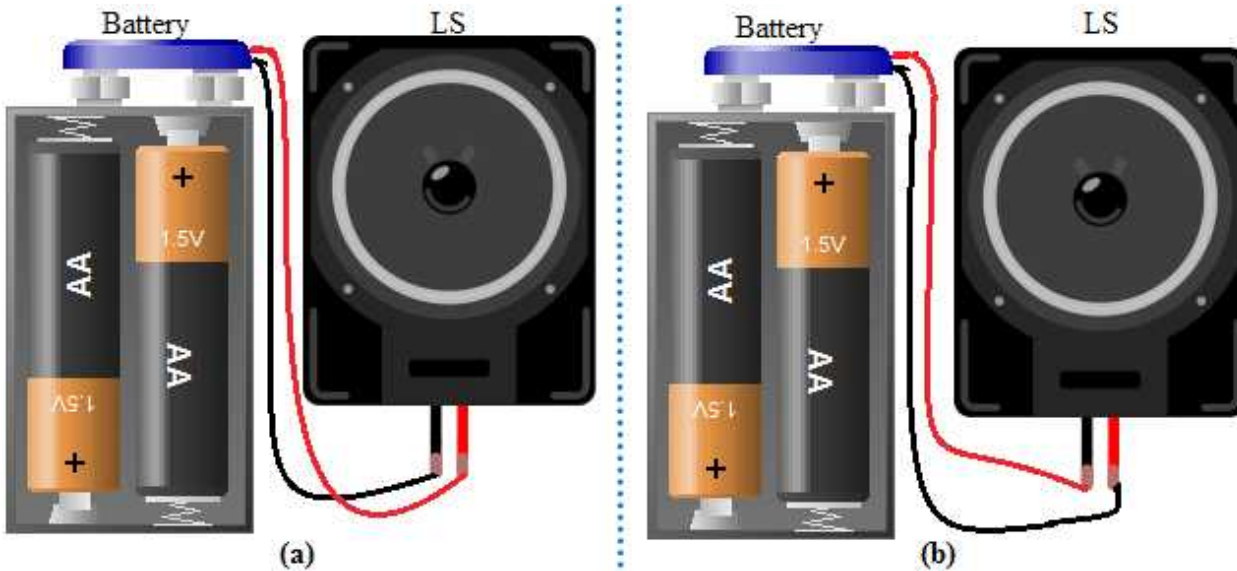

Figure 4-4: Circuit connection to test the loudspeaker cone movement due to the current. (a) The cone moves outward, (b) The cone moves inwards.
1. When the positive terminal of the battery is connected to positive marked tag of the loudspeaker and the negative terminal of the battery connected to the negative marked tag of the loudspeaker, as shown in circuit connection figure 4-4, part (a), there is current through the coil in one direction, the interaction of the permanent magnet field with the electromagnet field causes the cone to move to the outward.
2. By interchanging the polarities of the battery as shown in circuit connection figure 4-4, part (b), the current through the coil causes the cone to move to the inwards.